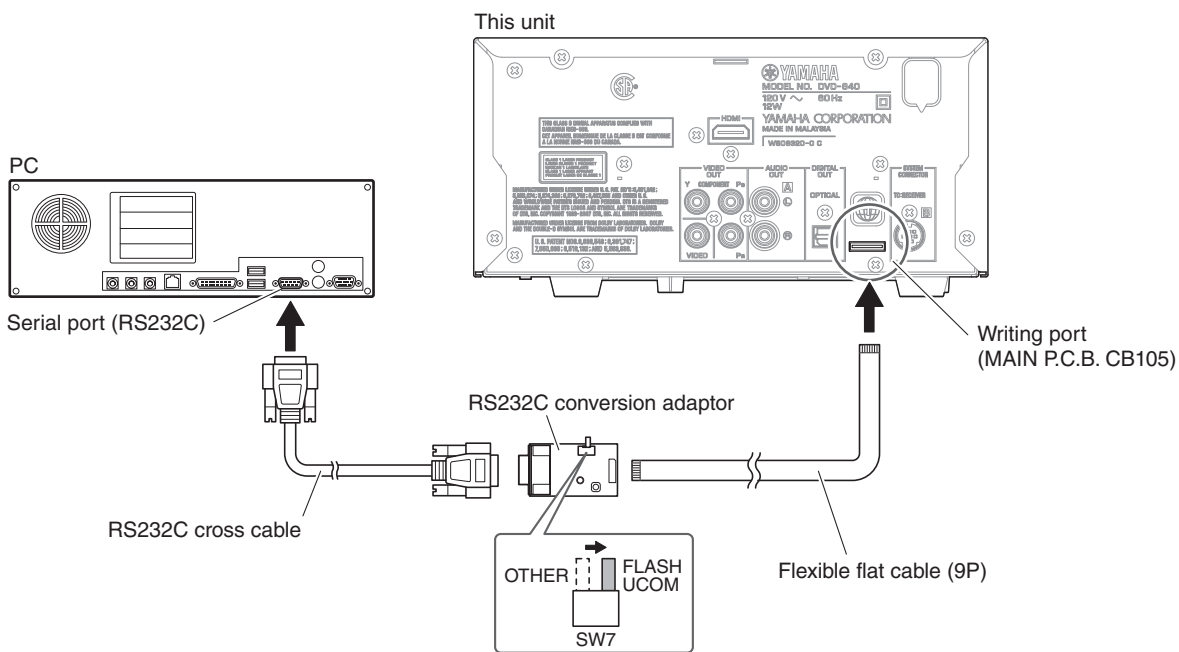

Fig. 1
1. Set the switch (SW7) of RS232C conversion adaptor to the “FLASH UCOM” position. (Fig. 1)
2. Connect the writing port (CB105 of MAIN P.C.B.) located on the rear panel of this unit to the serial port (RS232C) of the PC with RS232C cross cable, RS232C conversion adaptor and flexible flat cable as shown below. (Fig. 1)